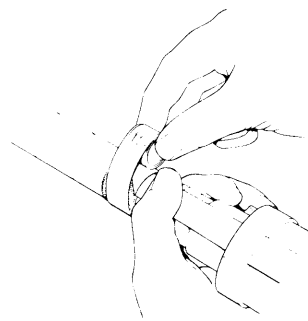

Figure 7
- b. Hold the coil and shield strap in place with thumb (Figure 7). Pull (to unwrap) the coil around the cable and rewrap around cable metallic shield and itself.